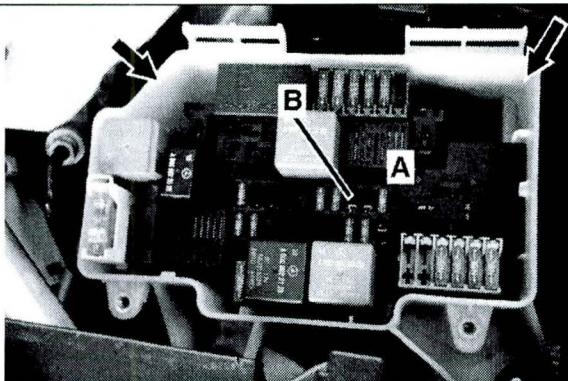

Figure 8
10.  Reinstall engine fuse and relay module (A, Figure 8) into fuse and relay module box (arrows) then install supplied 5 A fuse into fuse cavity no.: F123 (B).